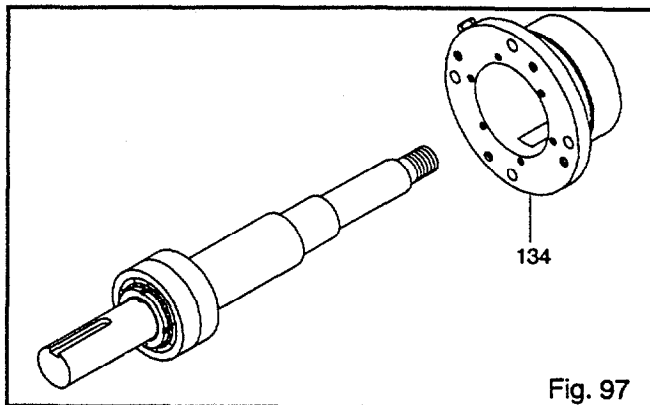

Fig. 97
5. Coat outside of outboard bearing (112A) and bore of bearing housing (134) with oil.
6. Install bearing housing (134) onto shaft/bearing assembly (Fig. 97).